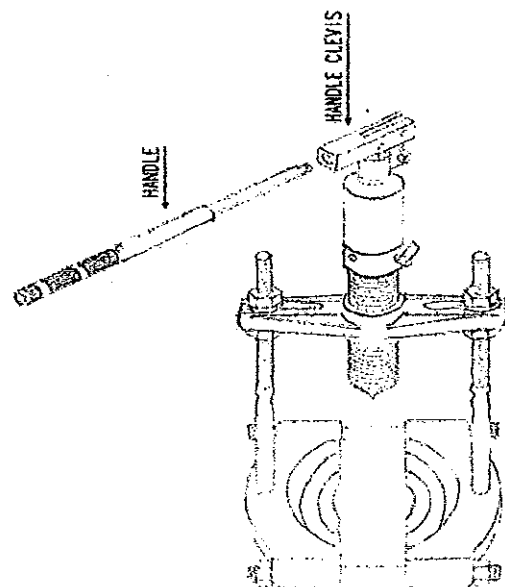

Figure 1.
- 2. Screw the foldable handle into the handle clevis. See Figure 1.**